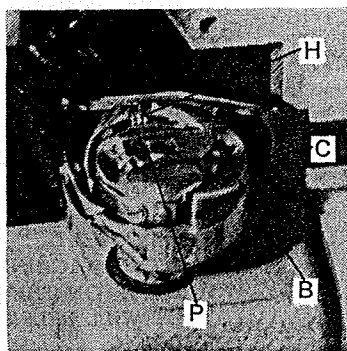

Fig. 6
3. LEAD THREAD END THROUGH GUIDE HOLDER (H) FIG. 6, LOCATED AT FRONT OF BOBBIN CASE ABOVE THE HINGED LATCH.
THE THREAD TAKE UP SPRING "K" (FIG. 6) SHOULD BE SET SO THAT WHEN THE EYE OF THE NEEDLE REACHES THE GOODS ON THE DOWNWARD STROKE OF THE NEEDLE BAR, THE SPRING WILL HAVE COMPLETED ITS ACTION AND WILL REST AGAINST THE STOP ON THE THREAD TAKE UP SPRING REGULATOR.
IF THE THREAD TAKE UP SPRING IS NOT SET AS OUTLINED ABOVE, LOOSEN SET SCREW "L" (FIG. 6) AND TURN TENSION STUD "M" TO THE LEFT FOR REDUCED MOVEMENT OF THE SPRING OR TO THE RIGHT FOR MORE MOVEMENT. AFTER THE TAKE UP SPRING IS SET CORRECTLY TIGHTEN SET SCREW "L". REGULATION OF THE TENSION OF THE THREAD TAKE UP SPRING "K" IS DONE BY TURNING THE TENSION STUD "M" TO THE RIGHT TO INCREASE TENSION OR TO THE LEFT TO DECREASE IT. THE TENSION OF THE SPRING SHOULD BE JUST ENOUGH TO TAKE UP THE SLACK OF THE NEEDLE THREAD UNTIL THE EYE OF THE NEEDLE REACHES THE MATERIAL ON ITS DOWNWARD MOVEMENT.